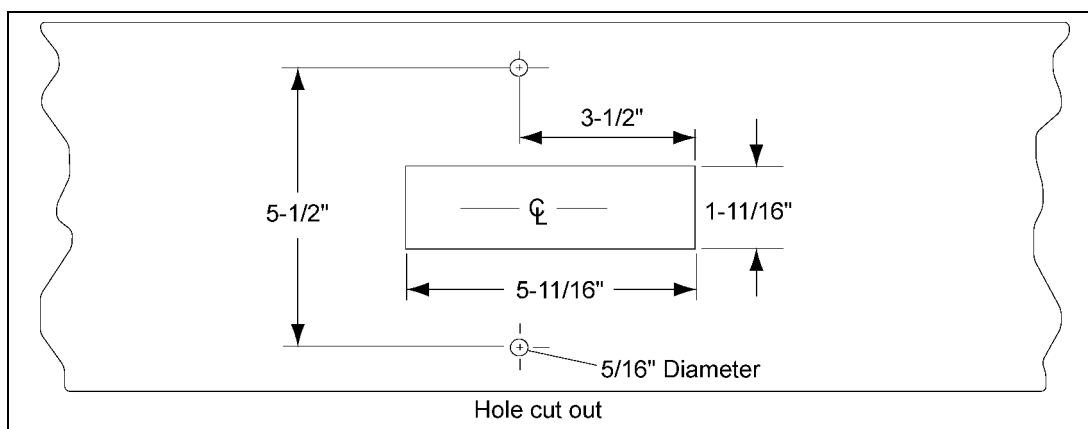

Figure 4K Top View
2. Cut a hole in the bottom of the spout (1-11/16" x 5-11/16") and drill two (2) 5/16" diameter holes 3-1/2" toward the discharge end and 5-1/2" apart as shown in Figure 4K. Use a saber saw for the hole, not a torch. Remove burrs and check so the sensor block fits into the stepped edge.